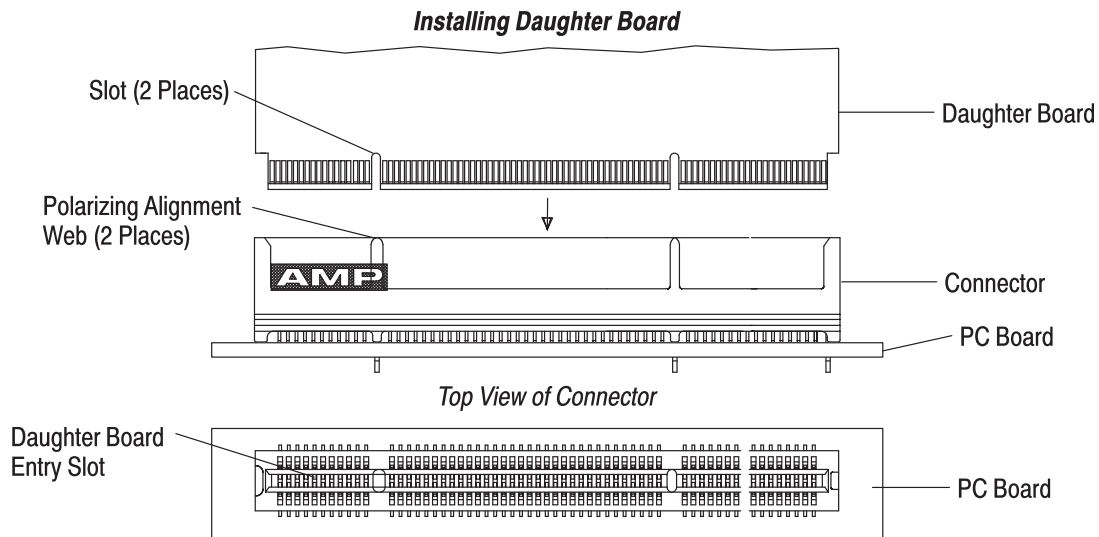

Figure 8
3.12. Installing Daughter Board (Figure 8)